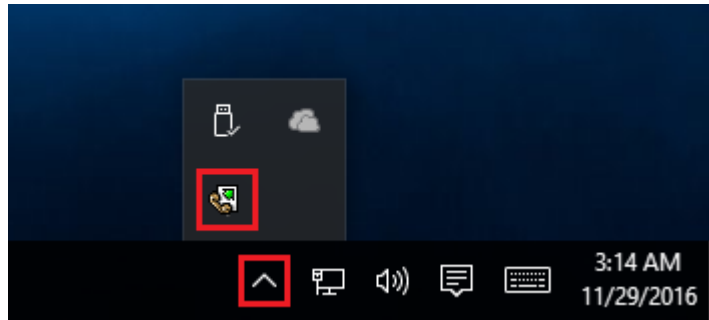

Fig. 51. Systray - panel near clock
- **Start in minimized state** - at start Accurate Printer Monitor will automatically minimize the program window to the taskbar or to the Systray (fig. 51).